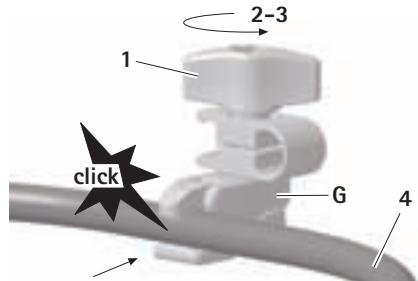

Fig. 6
- ▶ Click the fastening clip G into the desired position onto the frame 4 (BV814R/BV815R), see Fig. 6. Fastening clamp G is fixed on frame 4.